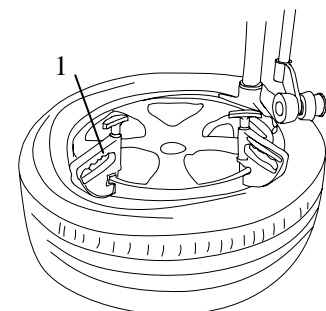

Fig 12
2. Make tyre top bead upon rear of demounting/mounting head and below front of emounting/mounting head, move right pressing arm and make sure it is locked, pull handle D down to make roller C,G to press top bead to position below demounting/mounting head. Lock pressing block 1 on rim edge, rotate turntable, finish tyre mounting. (Fig 12)